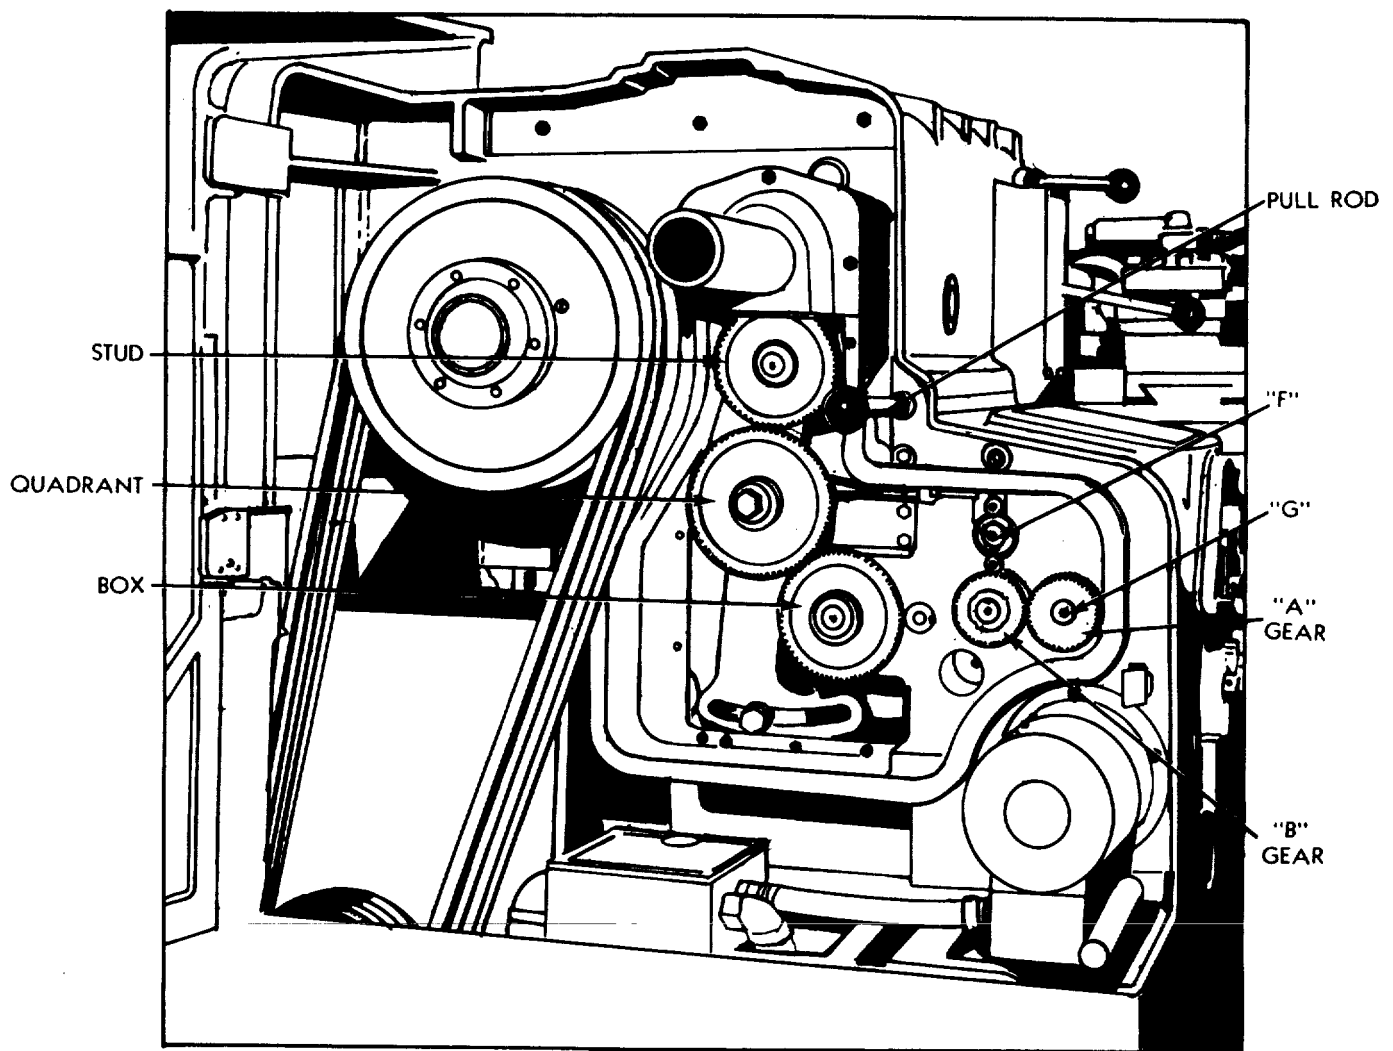

Figure No. 7-Head-End, showing Swinging Cover open and oil tight aluminum cover removed.
**CHANGE GEARS AND GEAR BOX**-On all English lathes a standard English range is furnished and every change on the index plate on the front of the box is obtained without changing any of the head end gears. The two outside gears, "A" and "B", Figure No. 7, should never be removed on English lathes. In addition to the standard range, other ranges may be secured by the addition of suitable gearing, namely:
To obtain these additional ranges, first arrange the change gears to correspond to the stud, quadrant, and box gears shown on the plate which is furnished for that particular range and which is attached to the inside of the swinging cover. Second, make sure that for all metric leads and feeds the "A" gear, Figure No. 7, is on the cone shaft "F" and the small conversion lever on the opposite side of the box, is at position No. 1: and make sure that for transposed English leads and feeds the "A" gear is on the tumbler shaft "G" and the small conversion lever on the opposite side of the box is at position No. 2.